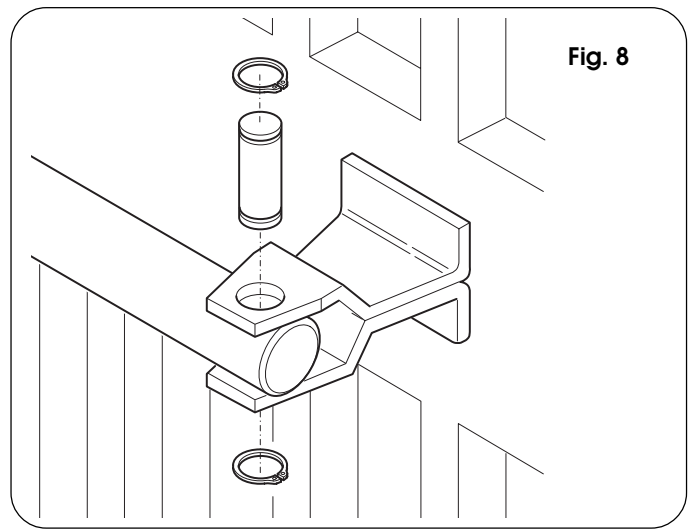

Fig. 8
- 6) Fit the front attachment onto the rod (Fig. 8)